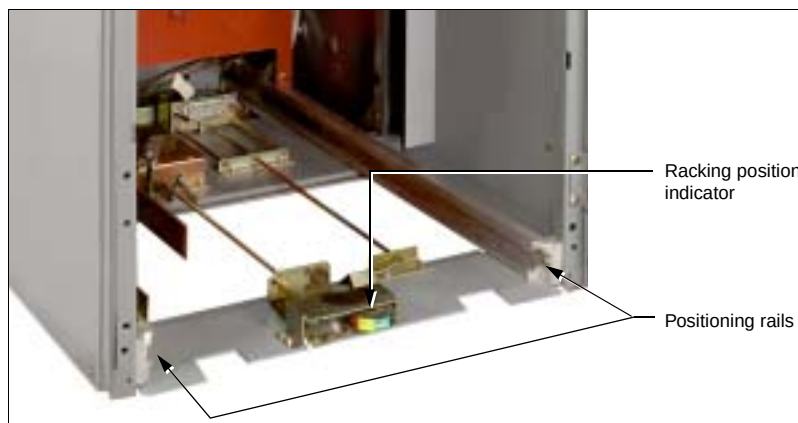

Figure 10: MASTERCLAD Switchgear Circuit Breaker Compartment
2. Verify that the racking position indicator (see Figure 10) reads “TEST/DISCONNECT”.
4. Align the G&T device rollers with the positioning rails (see Figure 10) mounted on the side walls of the circuit breaker compartment.